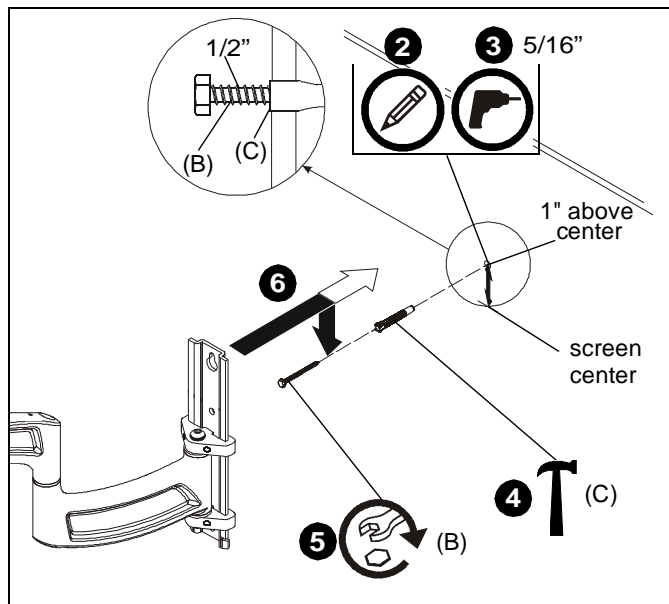

Figure 3
2. Measure 1" above desired center line and mark a hole at desired mounting location. (See Figure 3)
**IMPORTANT ! :** Use a level to make sure arm assembly (Z) is level when mounted to the wall!
3. Drill one 5/16" diameter hole at location marked in Step 2 with a depth of 3 1/4". (See Figure 3)
5. Install one 1/4 x 2 1/2" lag bolt (B) into concrete anchor (C), leaving bolt hanging out 1/2" from the wall. (See Figure 3)
6. Hang arm assembly (Z) onto lag bolt (B) by latching key-shaped hole over top of bolt. (See Figure 3)
4. Install one concrete anchor (C) into drilled hole. (See Figure 3)